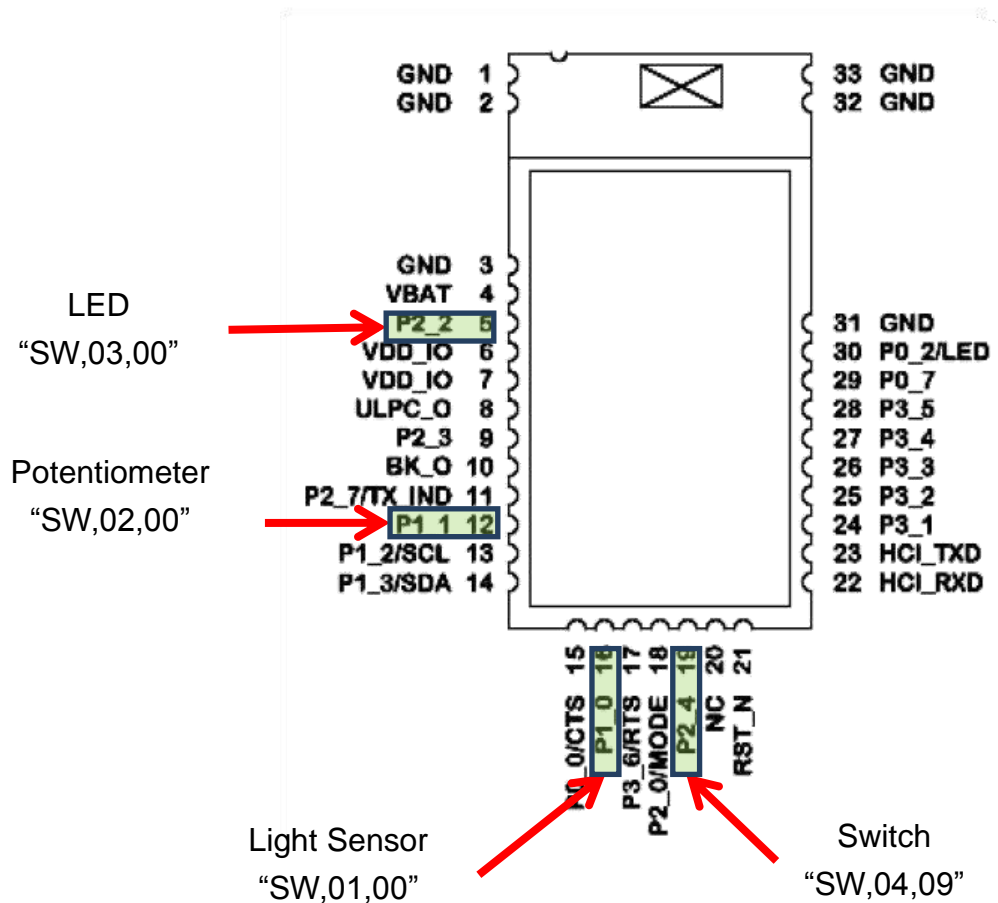

Figure 16: RN4870 Pins used by Sensor Board Interface
The RN487x module has digital and analog peripheral inputs and outputs. Refer to the data sheet for full description of IO interfaces, and the User Guide sections 2.4.24, 2.6.5-2.6.8 for configuration details. Peripheral IO can be accessed through direct UART commands or over Bluetooth Low Energy connection by associating a GATT characteristic with a peripheral input or output. In this section, accessing peripheral IO on sensor board connected to RN4870 PICtail. UART commands will be used read peripheral IO on sensor board, as illustrated in figure 16.
3. The following commands set the RN4870 IO pin to configuration illustrated below in figure 16: